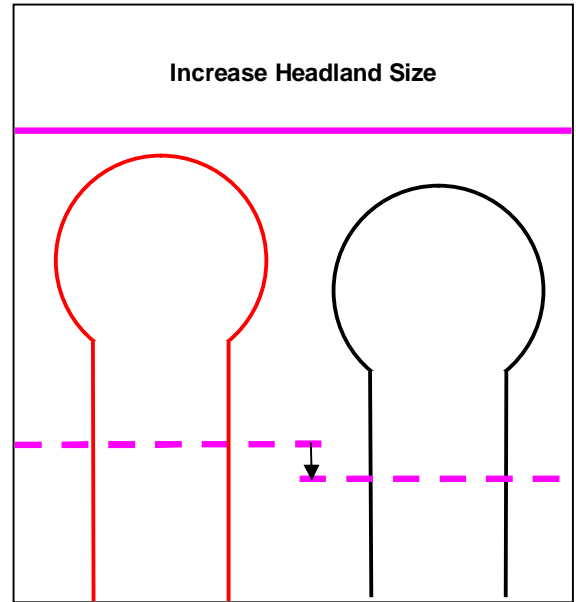

Figure 10
- Increase headland size (figure 10)